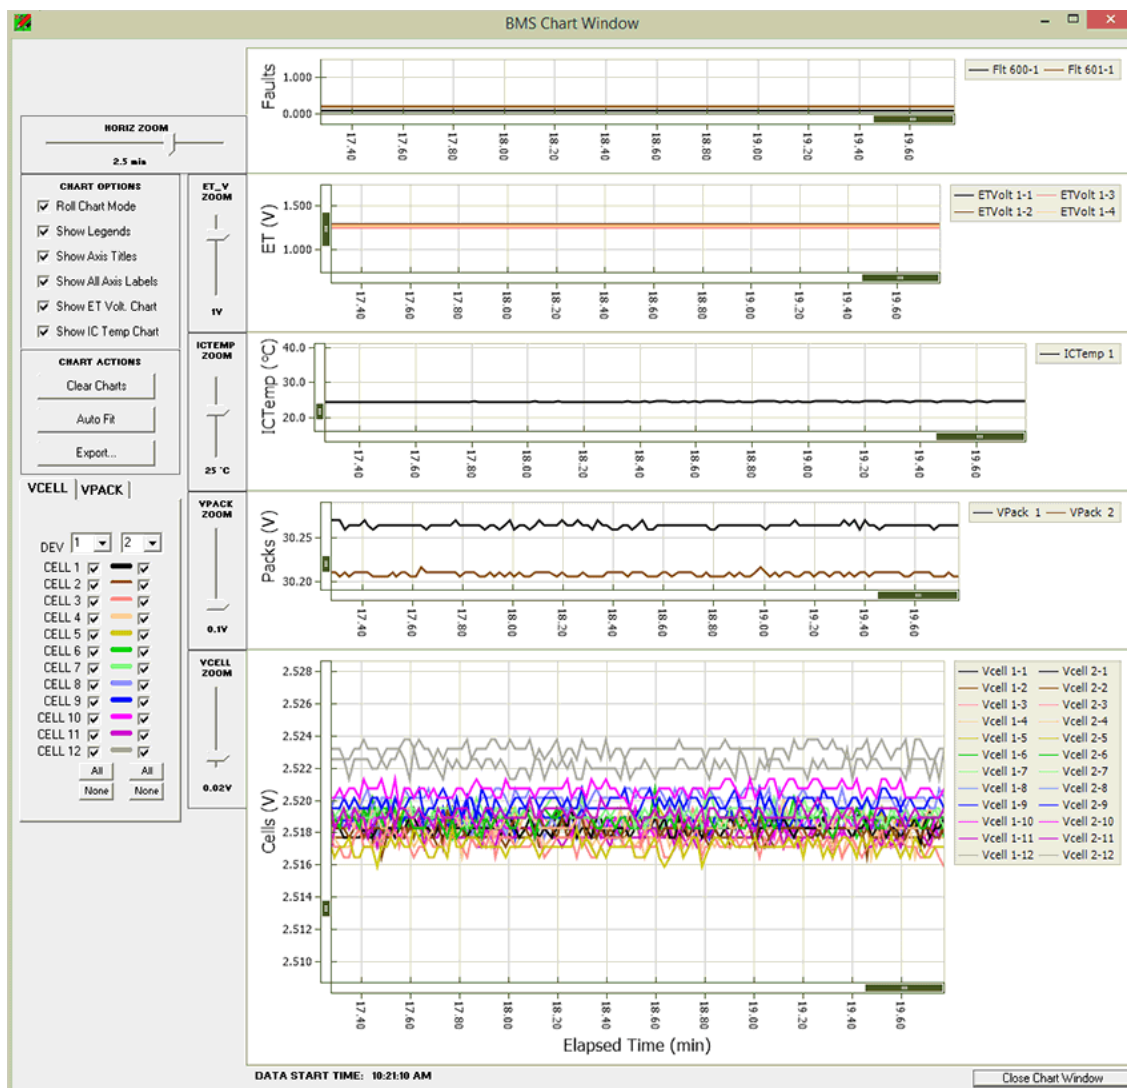

Figure 12. Chart Window
- Use the **Show Chart** button to view various voltages and status in real time (see Figure 12 on page 13).